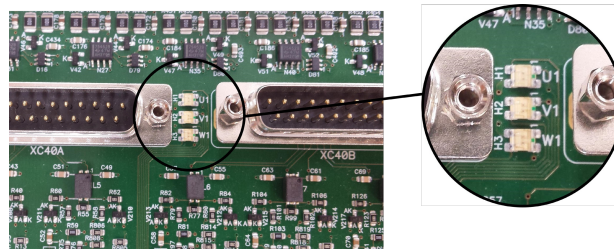

Figure 6.1: LEDs that indicate fault on the arms of the power units (desaturation)
(1) In the case of the CFW11W G2, the HMI does not indicated in which UP11W G2 the fault occurred. LEDs on the ICUP board indicate which UP11W caused the fault, Figure 6.1 on page 6-10. When the reset is executed, the LEDs turn off and turn back on if the fault persists.